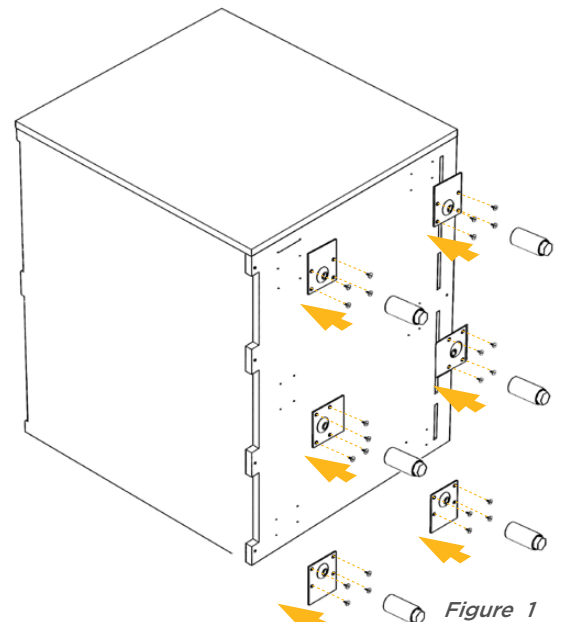

Figure 1
- With the bottom of the cabinet facing you, locate the pilot holes. Position the Leg Assembly over the pilot holes with the flange facing the outside of the cabinet (Figure 1).